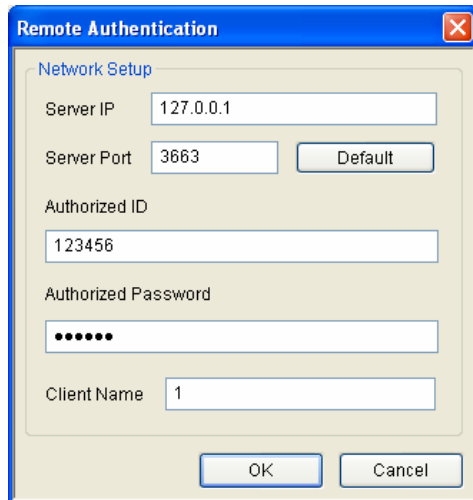

Figure 11-27
1. On the Host List, right-click **Host List by ID** and select **Remote Authentication Setup**. A dialog box appears. See Figure 11-27.